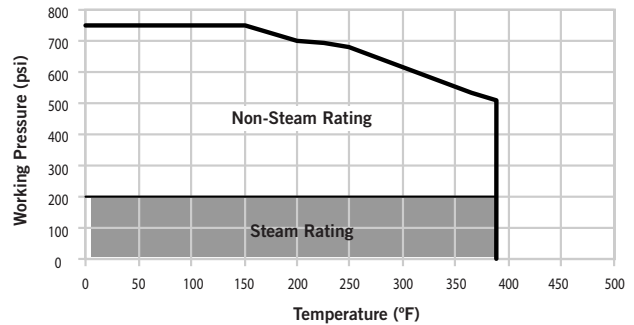

Figure 1: Schedules 40 & 80 and Equivalent Thickness Metric Carbon Steel Pipe, and Schedule 40S Stainless Steel Pipe
- For nonsteam applications using Schedules 40 and 80 and equivalent metric thickness carbon steel pipe or Schedule 40S stainless steel pipe, joints utilizing the Style 870 Coupling provide working pressures ranging from full vacuum (29.9 inches Hg/760 mm Hg) up to 740 psi/5102 kPa, depending upon maximum system temperature. Please refer to Figure 1 for specific pressure/temperature ratings.